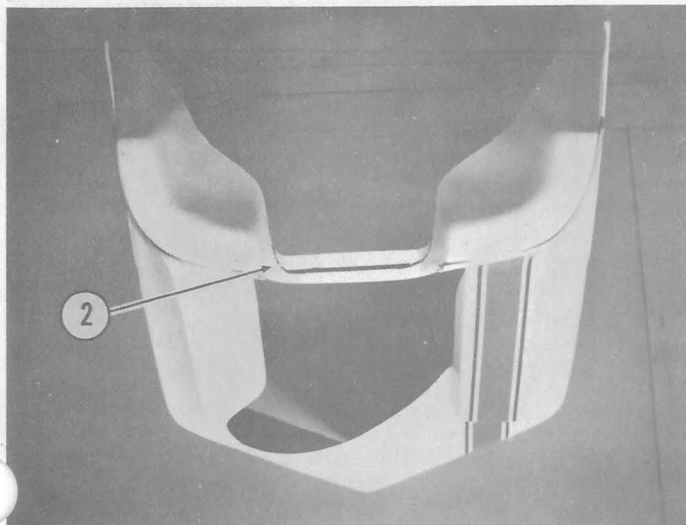

Figure 1
- 2.) Draw a line as pictured in No. 2 in Figure 1, to indicate the portion of fiberglass to be removed. This line should be drawn within one-half (1/2) inch from radius. By so doing, the strip removed should be approximately one (1) inch in width, and will achieve a better throttle radius. The fiberglass may be cut with a hack saw.